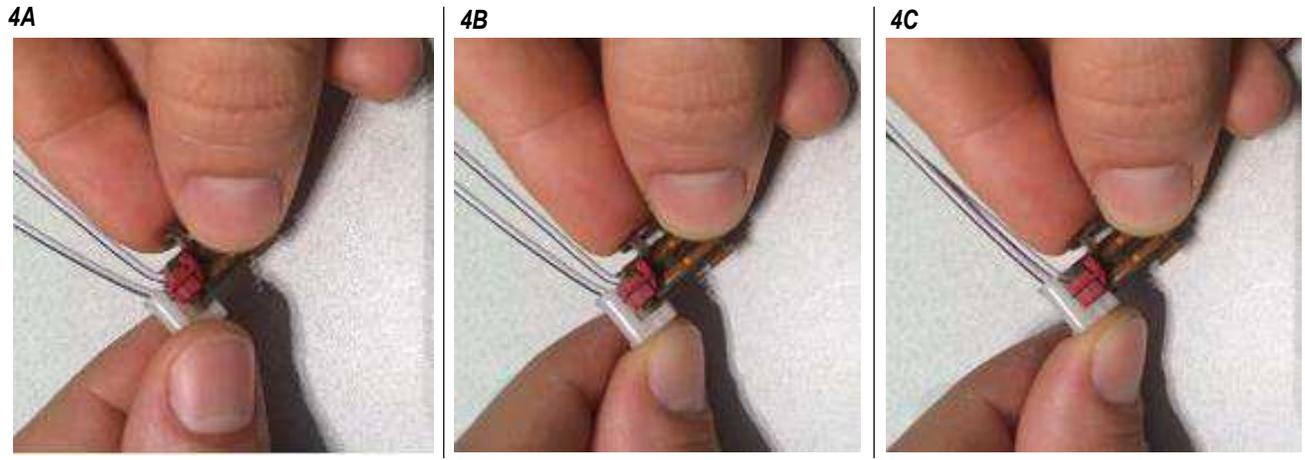

Figure 4
1. Hold the plug and cap assembly, grasp the wire bundle, and form (bend) the wire bundle in the desired direction. See Figure 4, Detail A.
2. Align the open end of the base of the wire cover with the lip at the wire end of the plug and cap assembly, making sure that the wire exit will accommodate the desired direction of the wire bundle. See Figure 4, Detail B.
3. Slide the wire cover onto the outer housing and over the wire bundle, making sure that all wires are completely captured within the wire cover, until it snaps into place. See Figure 4, Detail C.